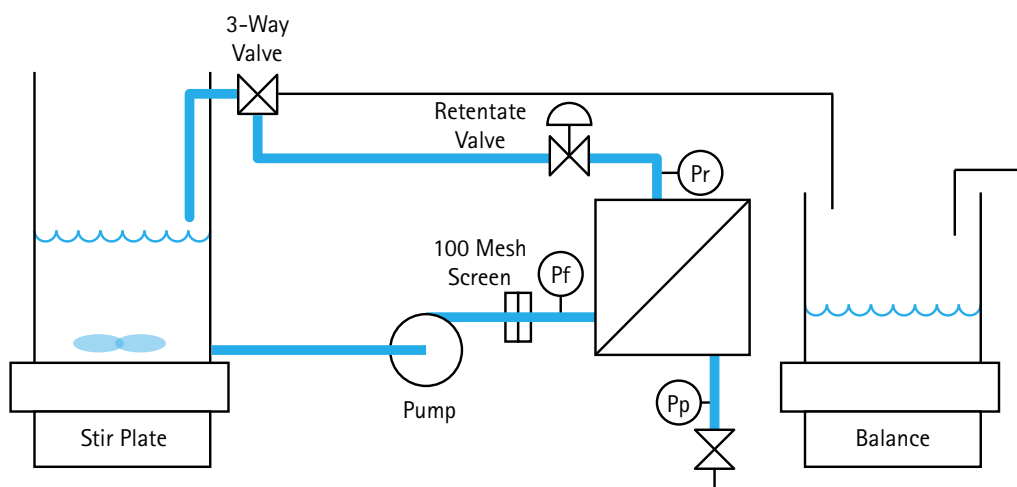

Figure 8.
8.1 Arrange the system flowpath to the Vacuum Diafiltration mode (Figure 8).
- 9.2 Arrange the system flowpath to the Depolarization mode (Figure 8) by closing the permeate isolation valve, setting the retentate valve fully open and starting the pump. Operate the pump at low feedflow rates – low enough to avoid the ΔP limits outline in step 9.1.